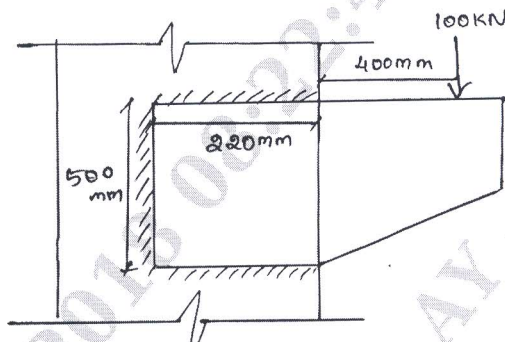

Fig. Q4 (b)
b. Determine the 'size of the weld' for the shown bracket connection. (Refer Fig. Q4 (b)) (08 Marks)